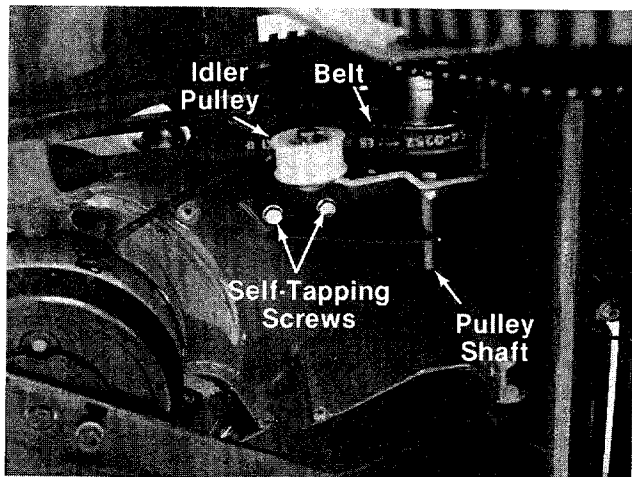

FIGURE 22.
7. Remove the two self-tapping screws which hold the support bracket and idler bracket to the deck. See figure 22. A 7/16" wrench is required.
8. Slide the support bracket and idler bracket (with idler pulley attached) off pulley shaft. See figures 22 and 23.